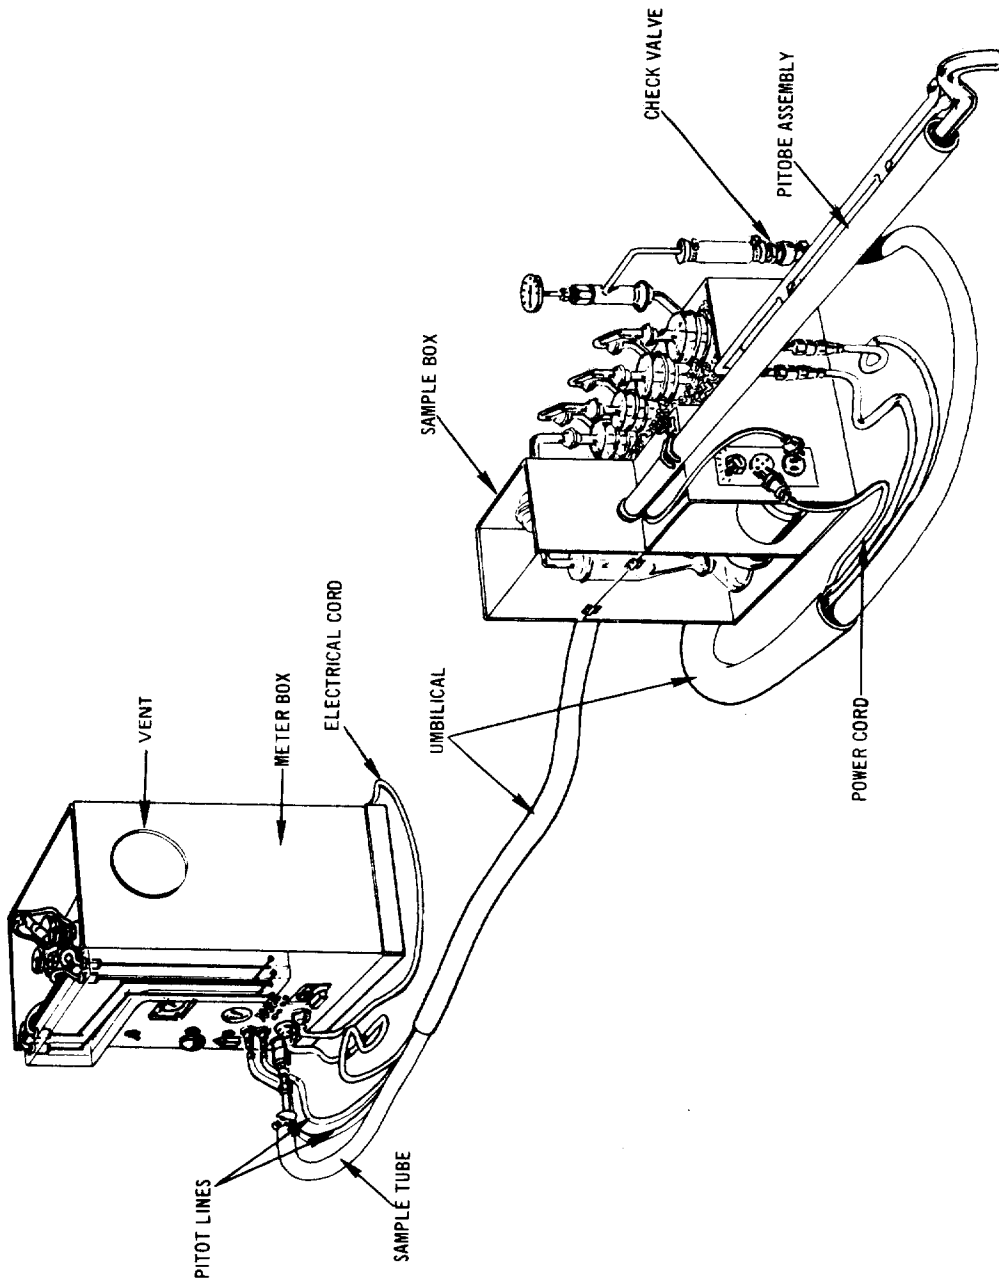

Figure 1. Sampling train.
The sampling train has four major components: (1) the pitot assembly, which includes the probe nozzle, a heated glass probe, and a pitot tube for monitoring gas velocity during sampling; (2) the meter box assembly, which consists of a system of manometers, an orifice meter, a vacuum pump, a dry gas meter, and electrical controls for sampling; (3) the sample box assembly, which contains the glassware; and (4) the umbilical cord, which connects the sample box with the meter box. A representation of the sampling train is shown in Figure 1. The maintenance and calibration procedure described for each of the components should be followed in the shop or laboratory in preparation for each sampling test.